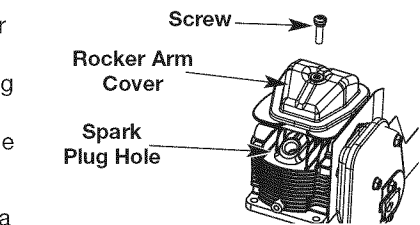

Fig. 42
- Clean dirt from around the rocker arm cover. Remove the screw holding the rocker arm cover with a large flat blade screwdriver or Torx T-25 bit (Fig. 42). Remove the rocker arm cover and gasket.
- The piston is at the top of its travel. This should be done by looking into the spark plug hole. (Fig. 42)